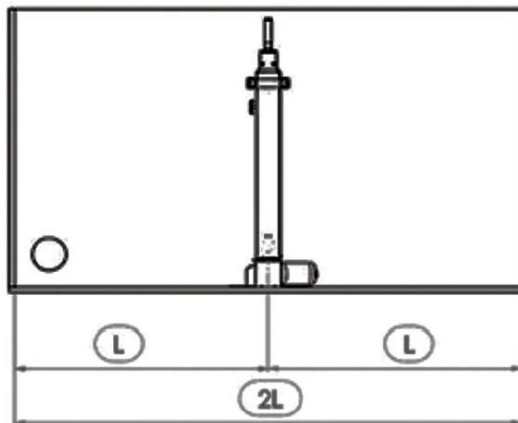

fig. 1
2. Place column in the middle of cabinet (fig.1).